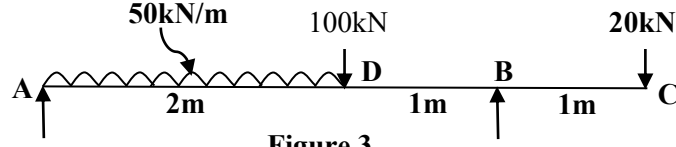

Figure 3
(c) Draw Shear force and Bending moment diagram for a beam shown in figure 3 07
- (b) Draw S.F and B.M diagrams for a beam loaded as shown in figure 3. 04